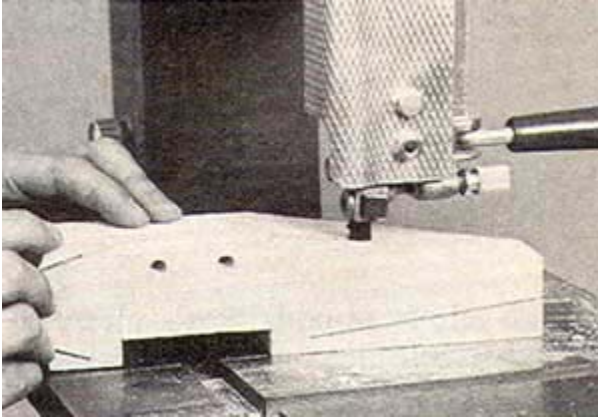

Fig. 1 Drilling the engine cylinder holes 1/2 in. back from the nose.
2: Drill the holes for the engine cylinders (K). Locate them 1/2" back from the front of the nose (See Fig. 1). Tilt the Drill Press table to 20-degrees and drill the holes in the fuselage (A) and the shock absorbers (F) for the wing struts (N).